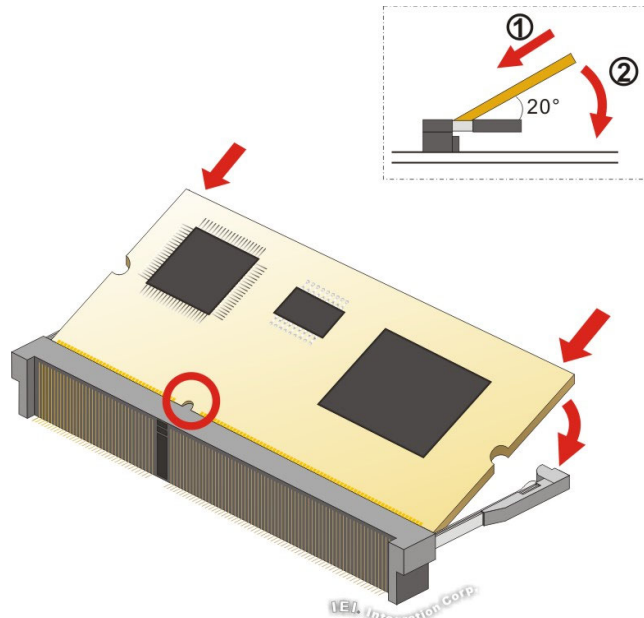

Figure 3-24: iRIS-2400 Module Installation
Step 3: Align the iRIS-2400 module with the iRIS-2400 module slot. Align the notch on the module with the notch on the iRIS-2400 module slot (**Figure 3-24**).
Step 4: Insert the iRIS-2400 module. Push the module in at a 20° angle (**Figure 3-24**).
Step 5: Seat the iRIS-2400 module. Gently push downwards and the arms clip into place (**Figure 3-24**).